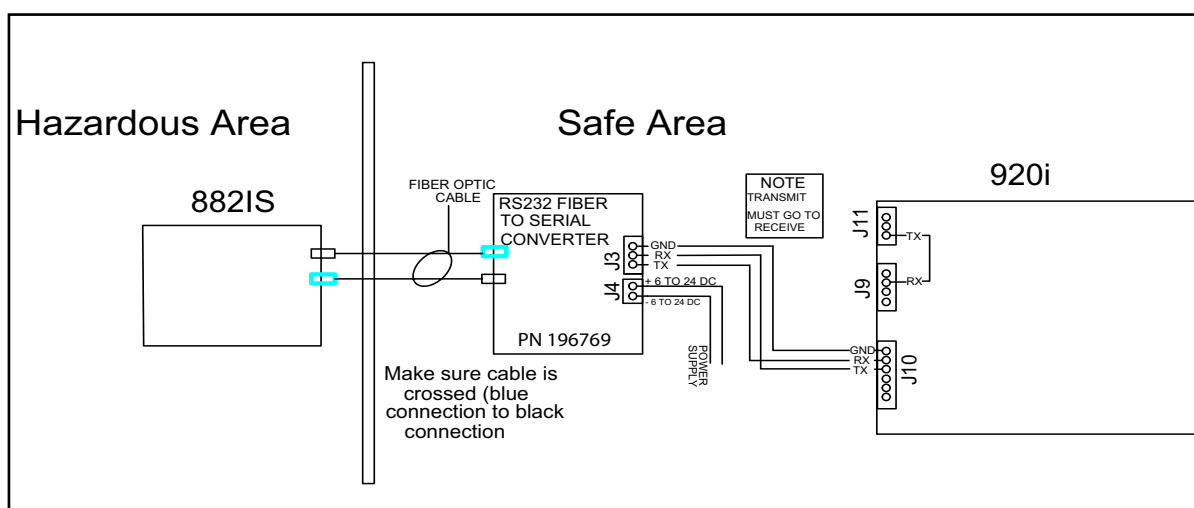

Figure 8-1. 882IS/882IS Plus Remote Setpoints RS-232 Hardware Model Example
The 882IS/882IS Plus indicator is capable of controlling setpoint batching on a remote Rice Lake Weighing Systems 920i weight indicator. This capability enables an industrial batching engine to run in a safe environment, controlled by the 882IS/882IS Plus through a fiber-optic cable from a hazardous area. See Figure 8-1 to see examples of how this is set up. With a special iRite program, the 920i is capable of running as a serial scale with batching setpoints controlled by the 882IS/882IS Plus indicator.
- RS-232 fiber to serial converter box (PN 196769) (Figure 8-1 on page 71)
1. Wire up connections from the RS-232 Fiber Adapter to the 920i indicator (Figure 8-1 on page 71) for connections.